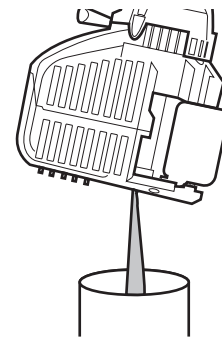

Fig. 18
- If the oil level is too high, tip the unit and drain the excess oil into an appropriate container (Fig. 18).
3. Tip the unit vertically to pour the oil out of the oil fill hole and into a container (Fig. 18). Allow ample time for complete drainage.